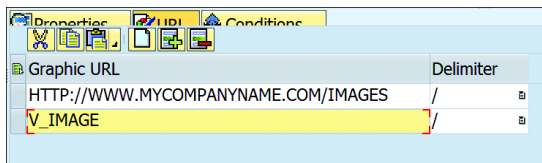

Figure 18.80 Dynamic URL
6. If you want to make some part of the URL dynamic, you can create one more row with an appropriate delimiter selected under the DELIMITER field. For example, if all the images are stored in the *images* folder and you want to assign the image name dynamically at the end, you can do so by entering the static part of the URL in the first row and maintaining the field name that contains the image name in the second row, with a forward slash (/) as the delimiter, as shown in Figure 18.80.
In Figure 18.80, the `v_image` field contains the name of the image, which can be updated dynamically in the form logic.